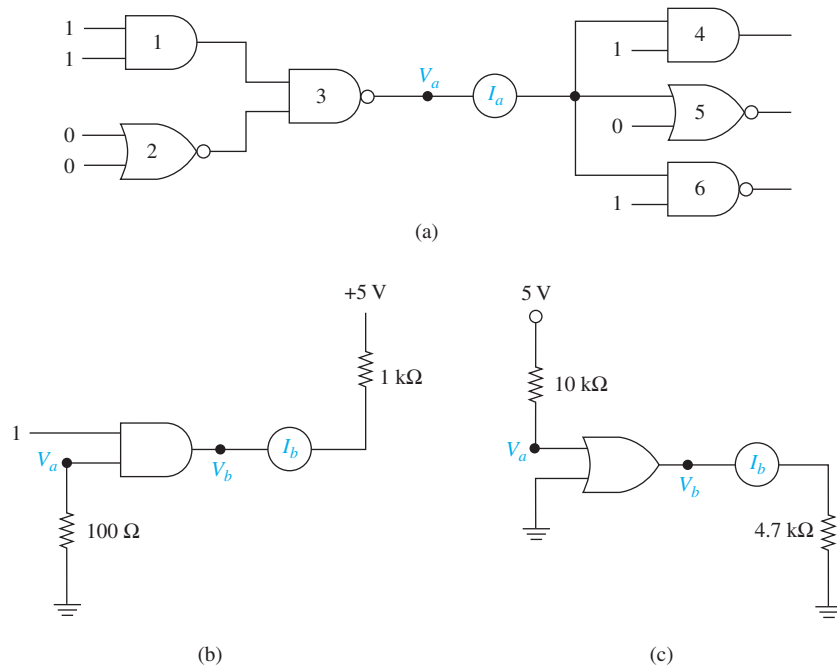

Figure 9 Voltage and current ratings.
Find the voltages and currents that are asked for in Figure 9 if the gates are all standard (74XX) TTLs.
- (a) Find V_a and I_a for Figure 9(a).
(b) Find V_a , V_b , and I_b for Figure 9(b).
(c) Find V_a , V_b , and I_b for Figure 9(c).